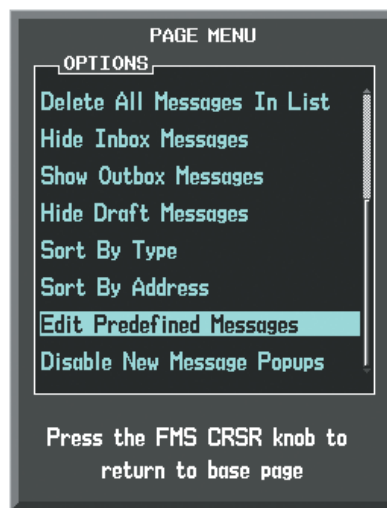

Figure 8-101 Creating/Editing Predefined Messages
- 2) Turn either **FMS** Knob to select 'Edit Predefined Messages' as shown in Figure 8-101.